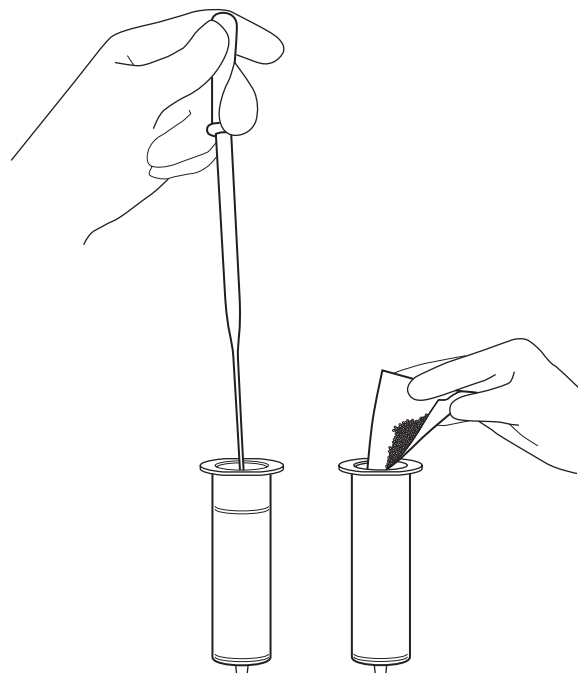

Figure 1: Preparing Cartridges Pipette sample onto prepacked cartridges (left) or pour adsorbed sample into empty cartridges (right).
1. Dissolve the sample and introduce it onto the prepacked cartridge (Figure 1).
2. Pour the sample and media mixture into the cartridge (Figure 1).